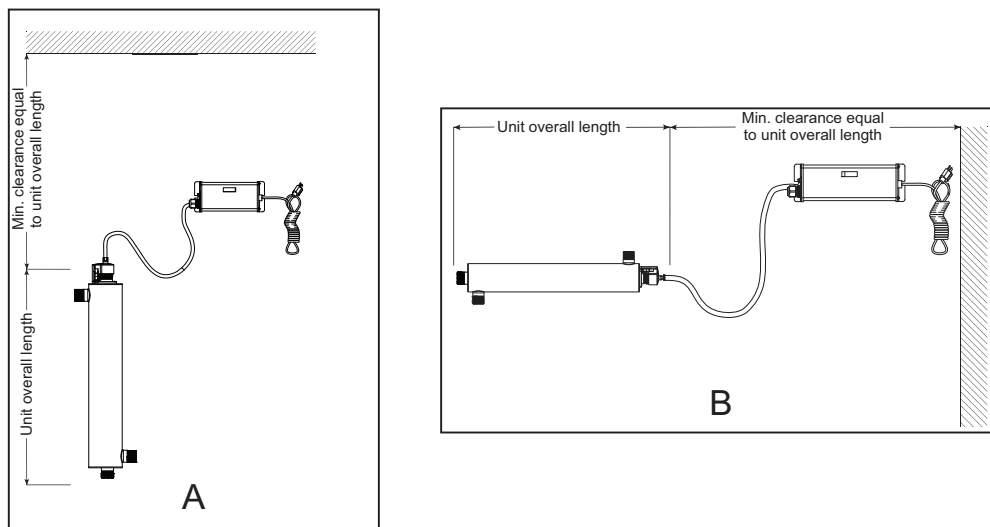

Figure 4 Installation - Vertical and Horizontal
2. Select a suitable location for the UV system and its related components. As it is recommended to install a GFCI, make sure that this is taken into consideration prior to any installation. The system can either be installed vertically (inlet port at the bottom) as shown in **Figure 4 A**, or horizontally as shown in **Figure 4 B**. However, the vertical installation is the most preferred method. When selecting a mounting location, leave enough space to allow the removal of the UV lamp and/or quartz sleeve (typically leave a space equal to the size of the chamber itself).